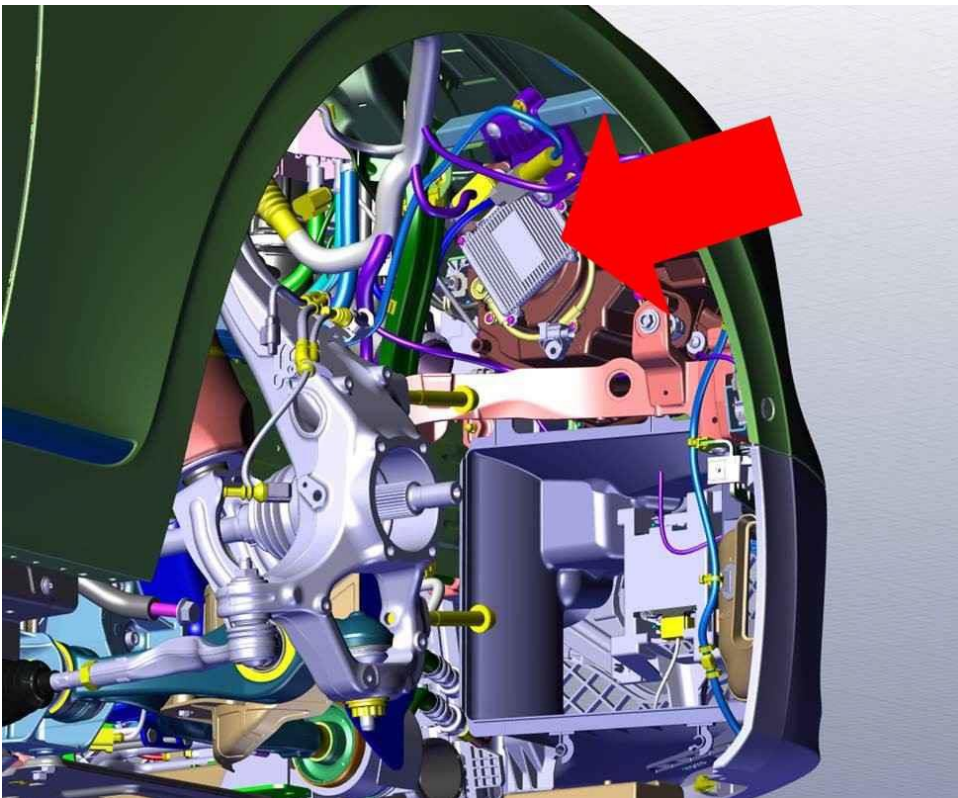

Figure 1
- Locate the module at the rear of the applicable headlamp as Figure 1